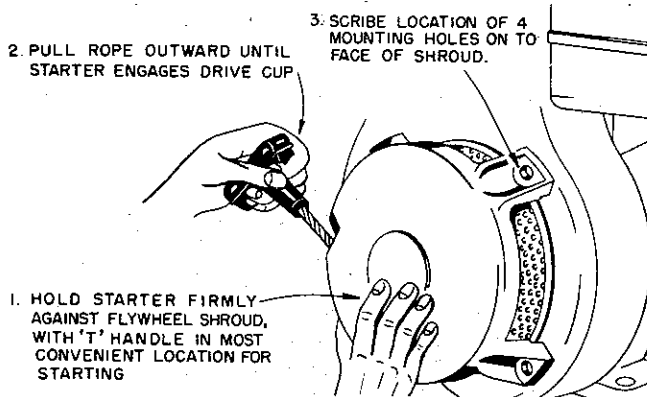

FIG. 3
1. With reference to Fig. 3, place starter over drive cup and hold unit firmly against the shroud, with the 'T' starting handle location in the most convenient starting position.